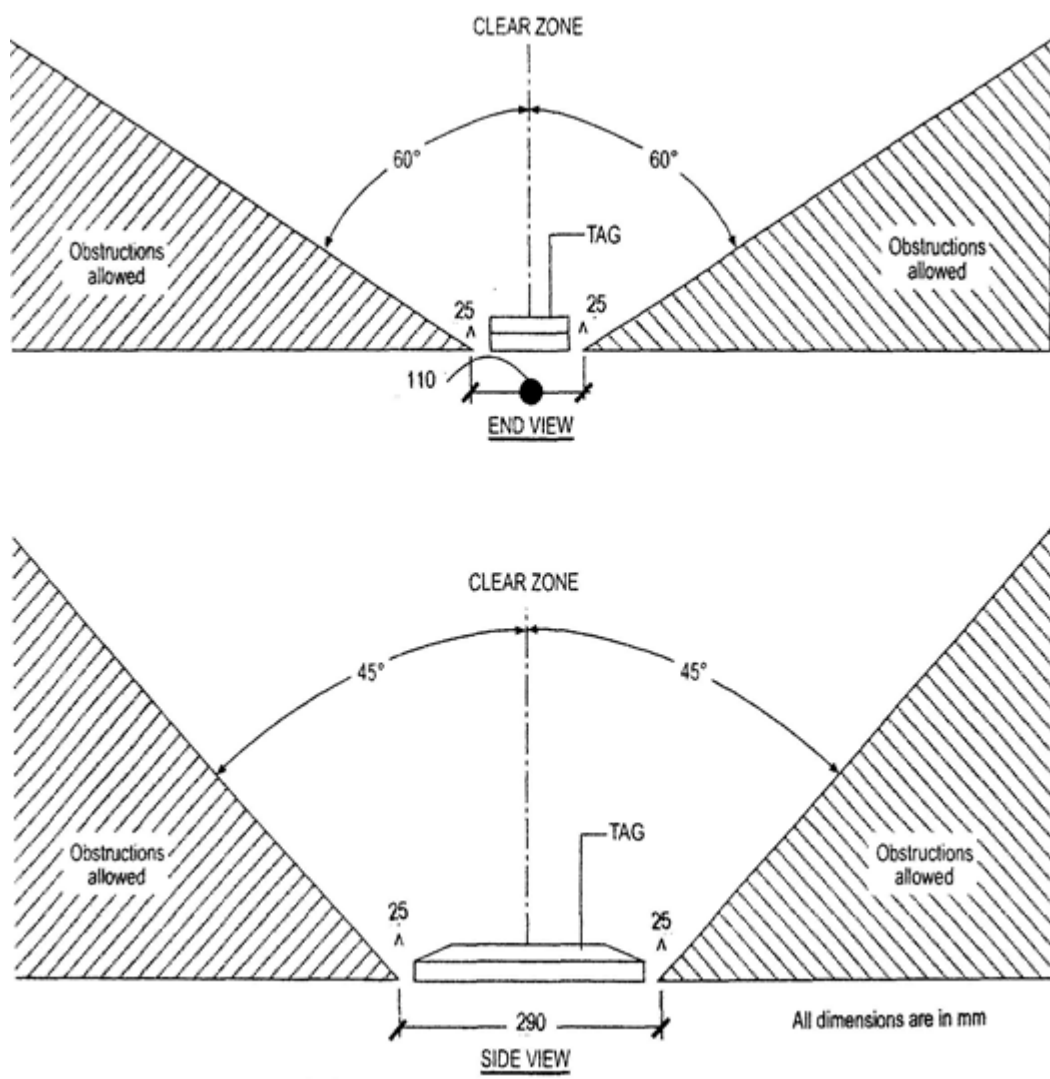

Figure 6 - Tag mounting clearance
- Figure 6 Four axle locomotives (AAR S-918 Exhibit B)
Clearance around AEI tags must be provided to prevent any part of the vehicle body or structure shielding the AEI tag from the tag readers. Clearance must be provided in accordance with Figure 6.